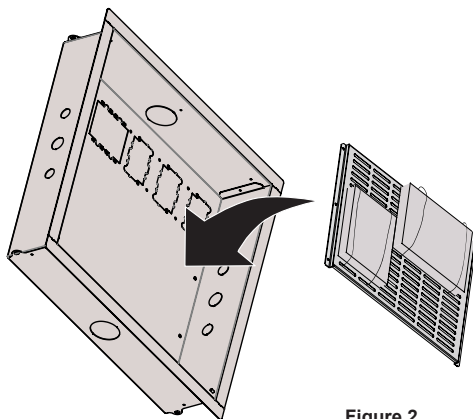

Figure 2
- 2) Place the mounting tray into the middle section of the GB-AVSTOR3 (Figure 2).